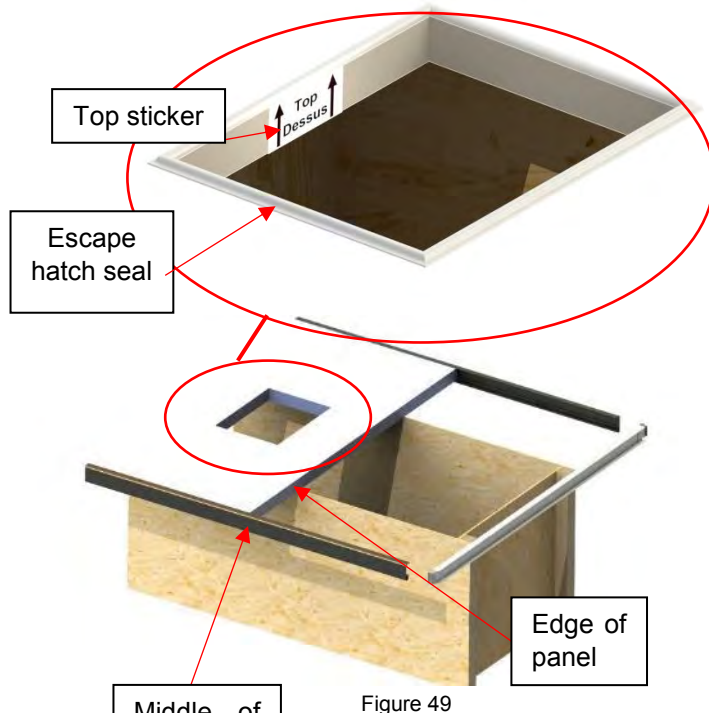

Figure 49
- 7) Place the escape hatch panel onto the middle of the installation surface. **Ensure the seal around the escape hatch opening is on top (Figure 49) and the top sticker located in the panel's hole is properly oriented (Figure 50).**
- 8) Assemble the long C-Channels, 94 9/16 in. (240 cm), over the previously placed panel so that the middle of the C-Channel, premarked with a center sticker (Figure 51), is aligned with the edge of the panel (Figure 49).